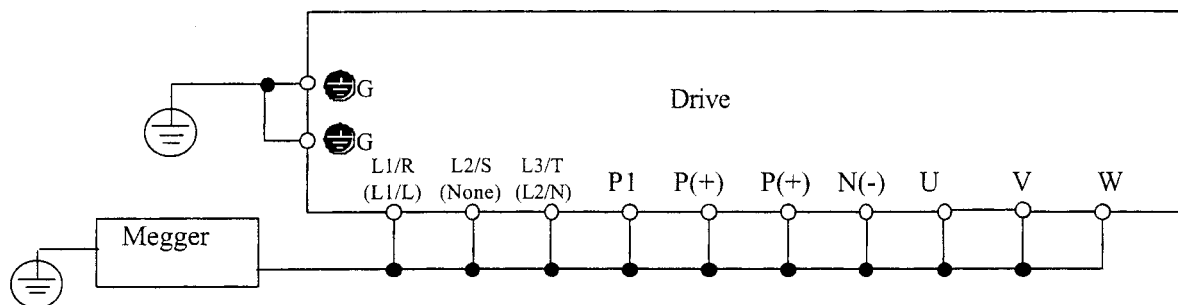

Figure 8-4-1 Megger Test
3. Connect the main circuit terminals with a common cable as shown in Fig. 8-4-1.